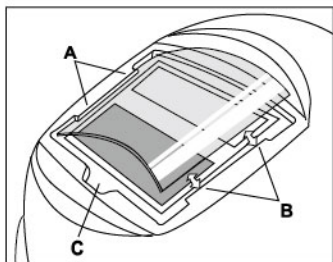

Figure.7
- Replace the front cover lens and the inner cover lens if they are cracked, scratched, dirty, or pitted. To do so, place your finger or thumb into the recess at the bottom edge of the window and flex the window upwards until it releases from one edge. (See Figure.7.)